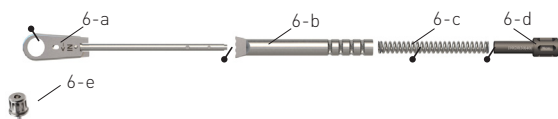

Fig. 6
- 2.1.1 Remove the manual/ratchet insertion tool (Fig. 6-e) from the ratchet head (Fig. 6-a).
- 2.1.2 Fully unscrew the adjusting screw (Fig. 6-d) from the ratchet handle (Fig. 6-b).
- 2.1.3 Pull the ratchet handle (Fig. 6-b) out of the ratchet head (Fig. 6-a) and remove the spring (Fig. 6-c).
- 2.2.1 All elements should be disinfected, cleaned and completely dry before assembly. Lubricate (see Fig. 6) the areas marked with ↗. This reduces the metal to metal friction and prevents friction corrosion. Only instrument oils (e.g. paraffin-based oil spray) with approval for steam sterilisation and tested biocompatibility should be used.
- 2.2.2 Place the ratchet handle (Fig. 6-b) over the threaded rod on the ratchet head (Fig. 6-a).
- 2.2.3 Slide the spring (Fig. 6-c) into the ratchet handle (Fig. 6-b).
- 2.2.4 Wind the adjusting screw (Fig. 6-d) into the ratchet handle (Fig. 6-b) until the resistance of the spring is felt.
- 2.2.5 Insert the required insertion tool manual/ratchet (Fig. 6-e) in the ratchet head (Fig. 6-a).